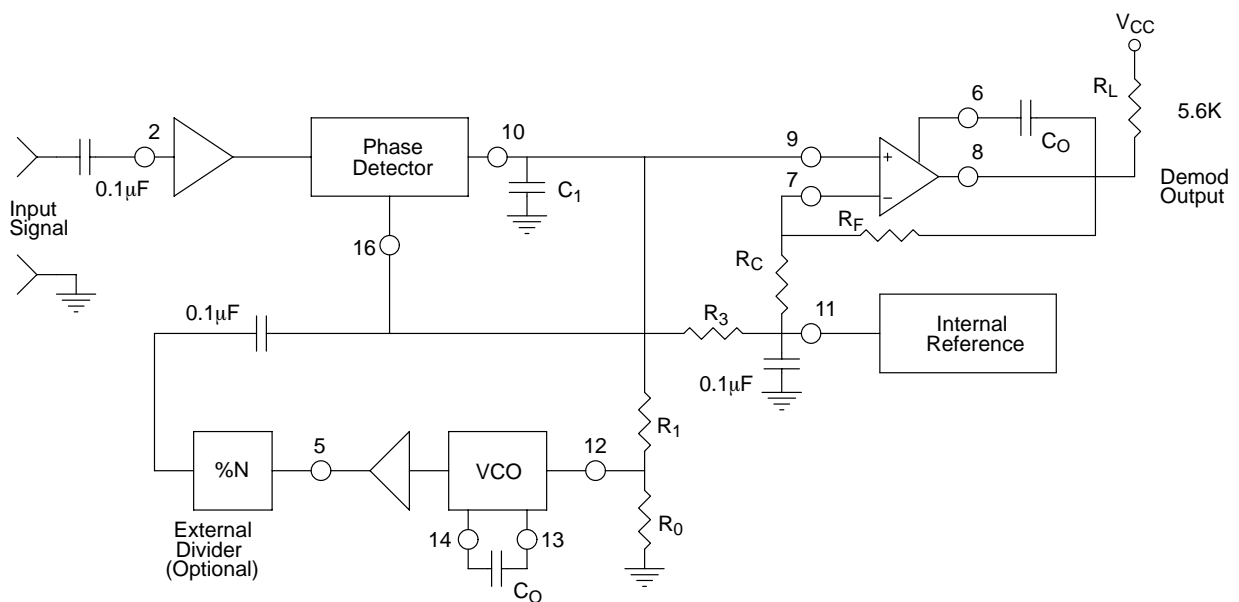
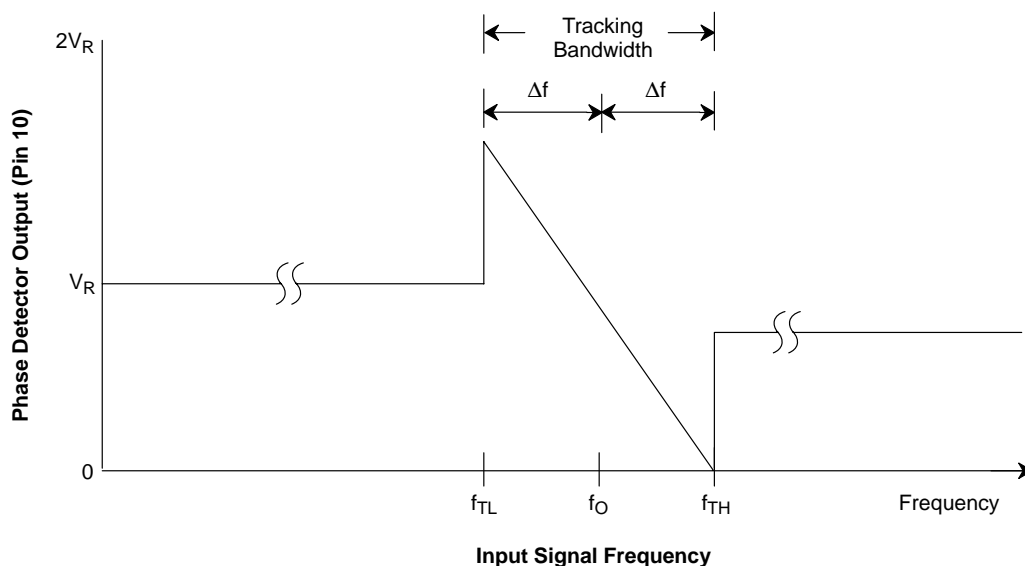
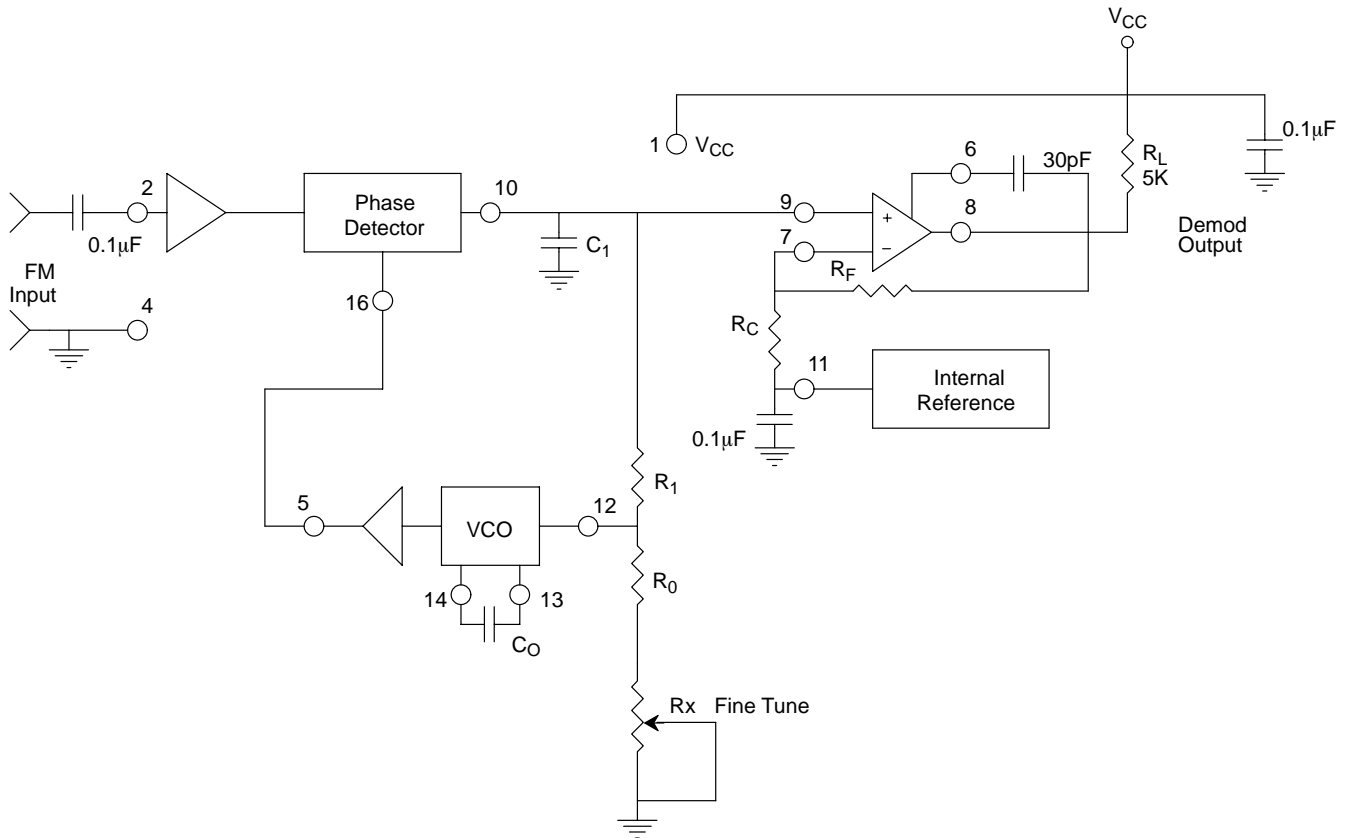

Figure 3. Generalized Circuit Connection for FM Detection, Signal Tracking or Frequency Synthesis
Figure 10. Phase Detector Output Voltage (Pin 10) as a Function of Input Signal Frequency
Figure 11. Circuit Connection for FM Demodulation
Test Conditions: $V_{CC} = +12V$, $T_A = +25^{\circ}C$, $R_0 = 30k\Omega$, $C_0 = 0.033\mu F$, unless otherwise specified. See Figure 3 for component designation.
Phase Detector Output (Pin 10): This terminal provides a high-impedance output for the loop phase-detector. The PLL loop filter is formed by R_1 and C_1 connected to Pin 10 (see Figure 3). With no input signal, or with no phase-error within the PLL, the DC level at Pin 10 is very nearly equal to V_{REF} . The peak voltage swing available at the phase detector output is equal to $\pm V_{REF}$.
VCO Frequency Adjustment: VCO can be fine-tuned by connecting a potentiometer, R_X , in series with R_0 at Pin 12 (see Figure 11).
Figure 10 shows the basic frequency to voltage characteristics of XR-2212. With no input signal present, filtered phase detector output voltage is approximately equal to the internal reference voltage, V_{REF} at Pin 11. The PLL can track an input signal over its tracking bandwidth, shown in the figure. The frequencies f_{TL} and f_{TH} represent the lower and the upper edge of the tracking range, f_0 represents the VCO center frequency.
(See *Figure 3* and *Figure 10* for definition of components.)
7. VCO Conversion Gain, K_0 : (K_0 is the amount of change in VCO frequency, per unit of DC voltage change at Pin 10. It is the reciprocal of the slope of conversion characteristics shown in *Figure 10*).
XR-2212 can be used as a linear FM demodulator for both narrow-band and wide-band FM signals. The generalized circuit connection for this application is shown in *Figure 11*, where the VCO output (Pin 5) is directly connected to the phase detector input (Pin 16). The demodulated signal is obtained at phase detector output (Pin 10). In the circuit connection of *Figure 10*, the op amp section of XR-2212 is used as a buffer amplifier to provide both additional voltage amplification as well as current drive capability. Thus, the demodulated output signal available at the op amp output (Pin 8) is fully buffered from the rest of the circuit.
In the circuit of *Figure 11*, R_0C_0 set the VCO center frequency, R_1 sets the tracking bandwidth, C_1 sets the low-pass filter time constant. Op amp feedback resistors R_F and R_C set the voltage gain of the amplifier section.
The circuit of *Figure 11* can be tailored to any FM demodulation application by a choice of the external components R_0 , R_1 , R_C , R_F , C_0 and C_1 . For a given FM center frequency and frequency deviation, the choice of these components can be calculated as follows, using the design equations and definitions given on page 10.
Note: All calculated component values except R_0 can be rounded-off to the nearest standard value, and R_0 can be varied to fine-tune center frequency, through a series potentiometer, R_X , (See Figure 11).
The total tracking range of the PLL (see Figure 10), should be chosen to accommodate the lowest and the highest frequency, f_{max} and f_{min} , to be synthesized. A recommended choice for most applications is to choose a tracking half-bandwidth Δf , such that:
- d) Calculate R_1 to set tracking bandwidth (see Figure 10 and design equation 5). If a range of output frequencies are desired, set R_1 to get: